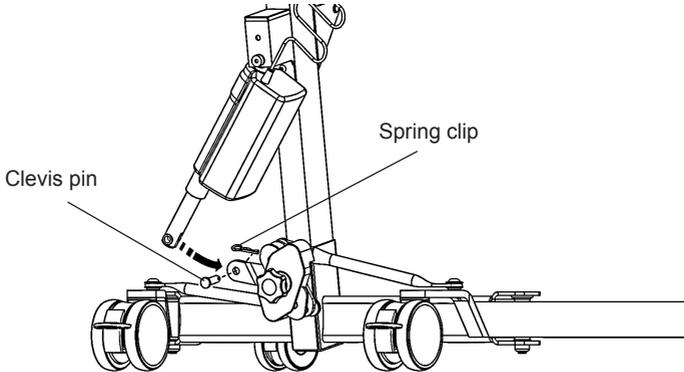

Fig. 2
5. **Electric Leg Operation:** There is some minor assembly required in order to connect the leg actuator to the leg adjustment mechanism. Gently swing the actuator into place over the leg pivot bracket ensuring the corresponding holes are in alignment. Insert the clevis pin, ensuring the plastic wear washers remain in place. To finish, fit the spring clip through the hole in the clevis pin and confirm secure attachment (Fig. 2).